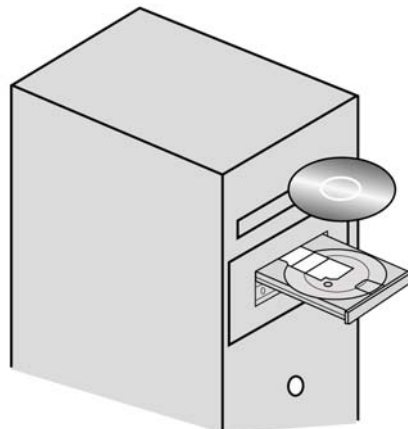

Figure 3-10: Inserting the Storage Navigator Modular 2 CD
1. In the management console's CD-ROM drive, insert the CD containing the Storage Navigator Modular 2 software (see Figure 3-10).